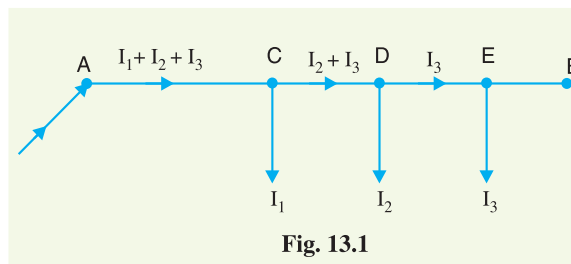

Fig. 13.1
(i) **Distributor fed at one end.** In this type of feeding, the distributor is connected to the supply at one end and loads are taken at different points along the length of the distributor. Fig. 13.1 shows the single line diagram of a d.c. distributor AB fed at the end A (also known as *singly fed distributor*) and loads I_1 , I_2 and I_3 tapped off at points C , D and E respectively.
- (b) The voltage across the loads away from the feeding point goes on decreasing. Thus in Fig. 13.1, the minimum voltage occurs at the load point E .